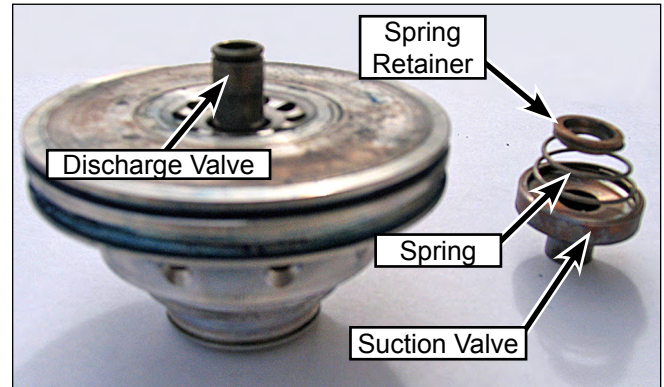

Figure 92: Install Discharge Valve.
1. Install the discharge valve into the valve body (Figure 92).